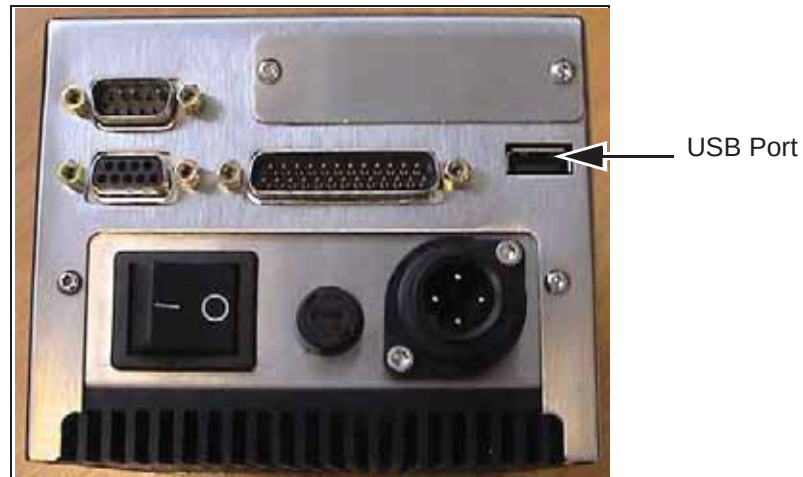

Figure 4-23: Printer USB Port
Instead of connecting a PC / laptop to the printer via a null modem cable in order to download jobs, the USB device can be connected directly into the USB port on the CLARiTY Operator Interface (Figure 4-23).
- 2 Insert the USB memory device into the USB port (Figure 4-23).